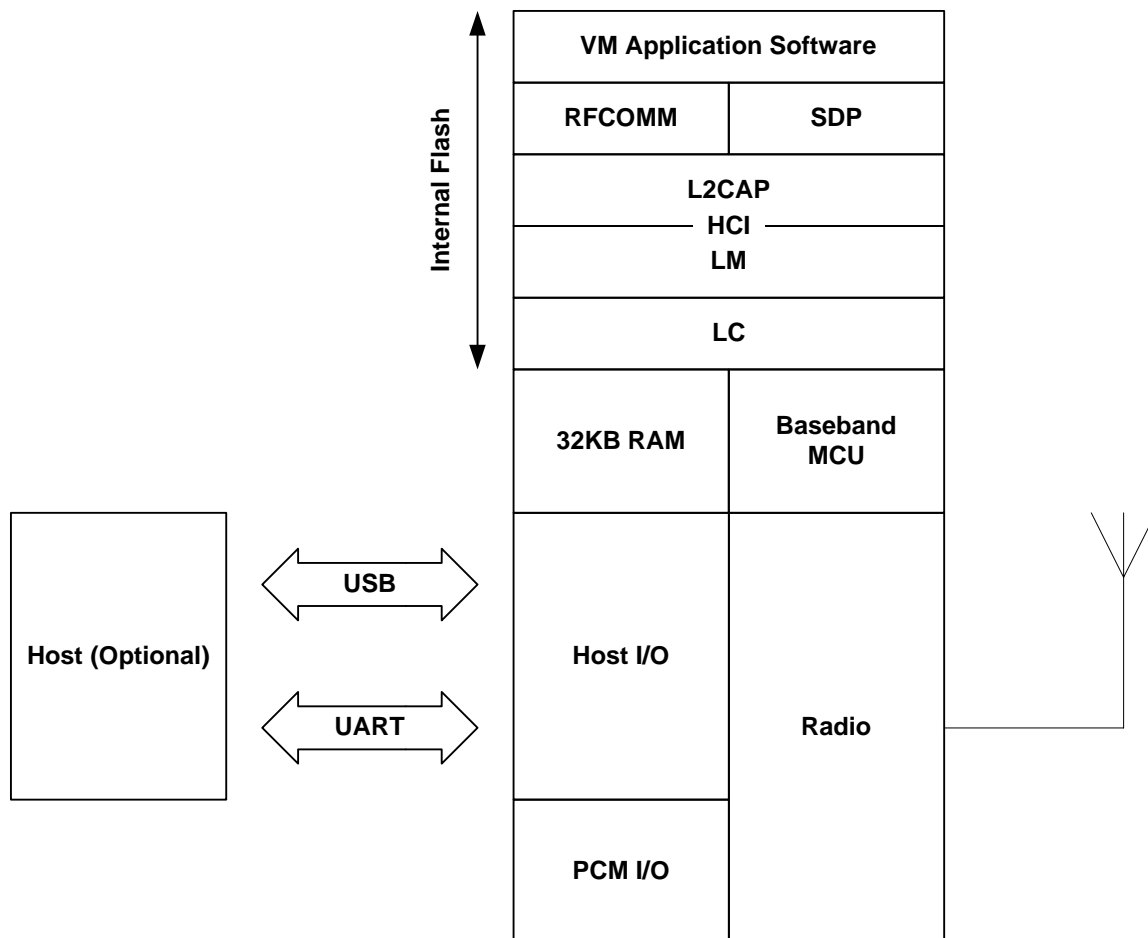

Figure 7.3: Virtual Machine
In Figure 7.3, this version of the stack firmware shown requires no host processor (but can use a host processor for debugging etc.). All software layers, including application software, run on the internal RISC processor in a protected user software execution environment known as a Virtual Machine (VM).